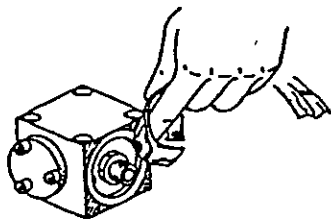

Figure 16
- Clean sealing surface at the filter head thoroughly with lint-free cloth. (Figure 16)